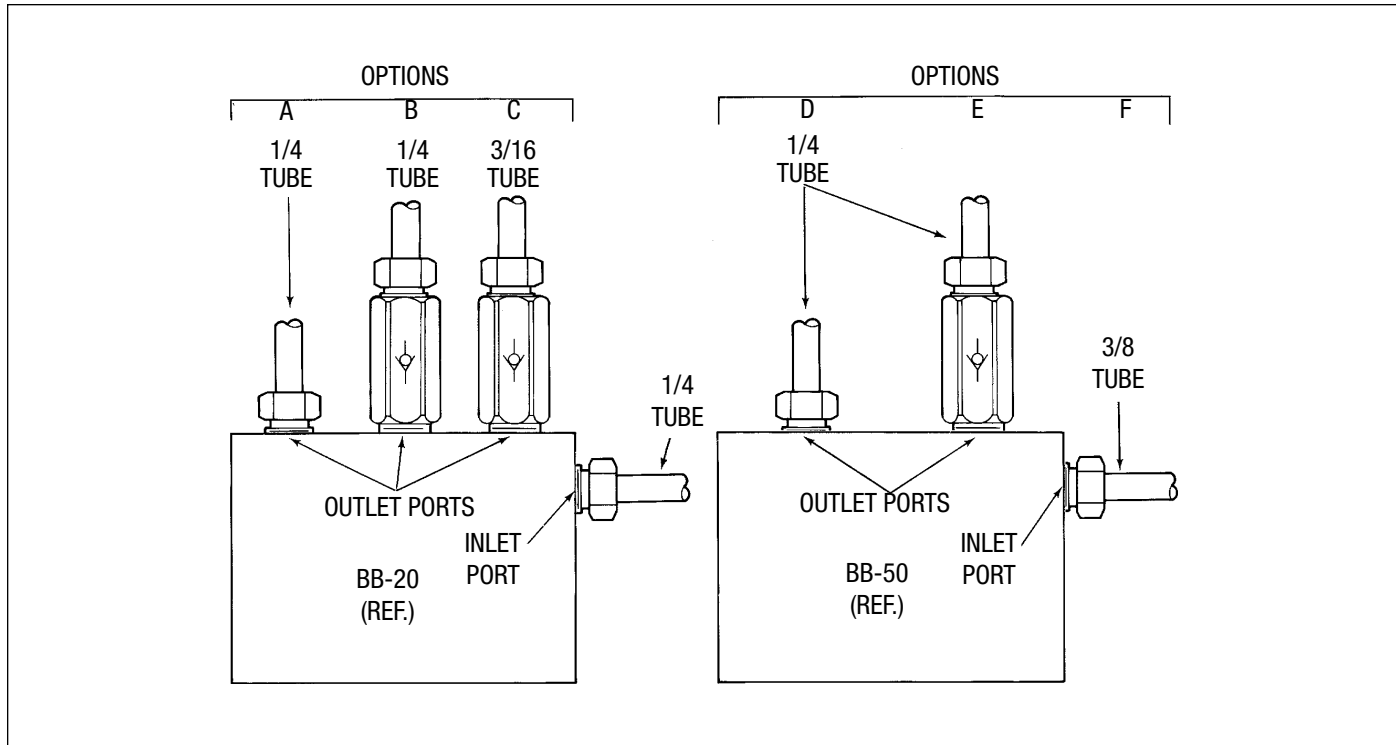

Figure 18. Special Tube Fitting
**Special Tube Fittings.** To reduce the hardware required to install a system, special tube fittings (Figure 18) are available for various sized tubing. These fittings thread directly into feeder valve or outlet check valve ports and securely hold the tubing. Part number for ordering depends on tubing size, type of feeder or outlet check valve, and whether the fitting is installed on the inlet or outlet of the feeder valve.